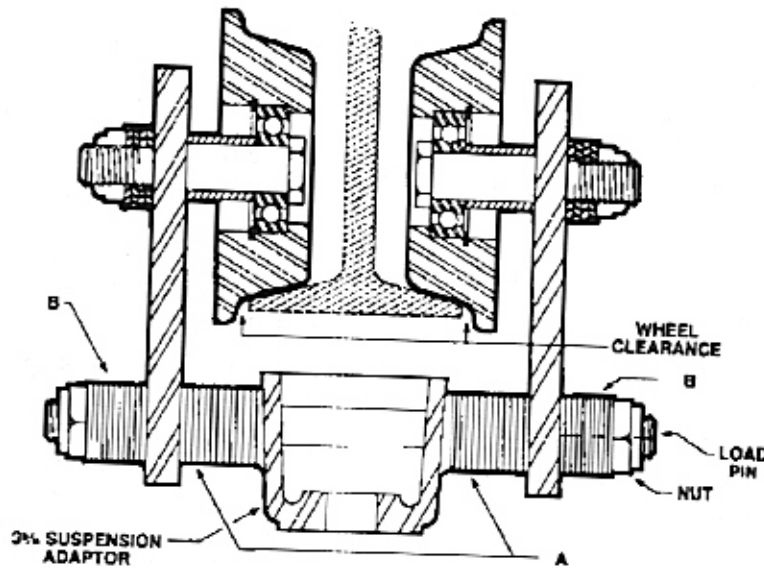

FIGURE 2-1
- Standard Army Type Trolleys are adjustable for the flange widths of 3.33 to 6.00 inches. Adjustment for I-beam sizes and tolerance is accomplished by locating the spacer washers as shown in Figure 2-1. Normal placement of washers is given in Table 2-1.